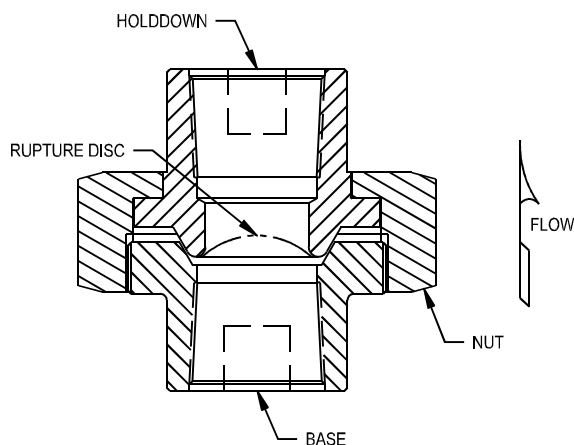

Figure 3 - Union Type
1. For ease of installation, carefully remove the rupture disc assembly from piping (See Figures 3 and 4).